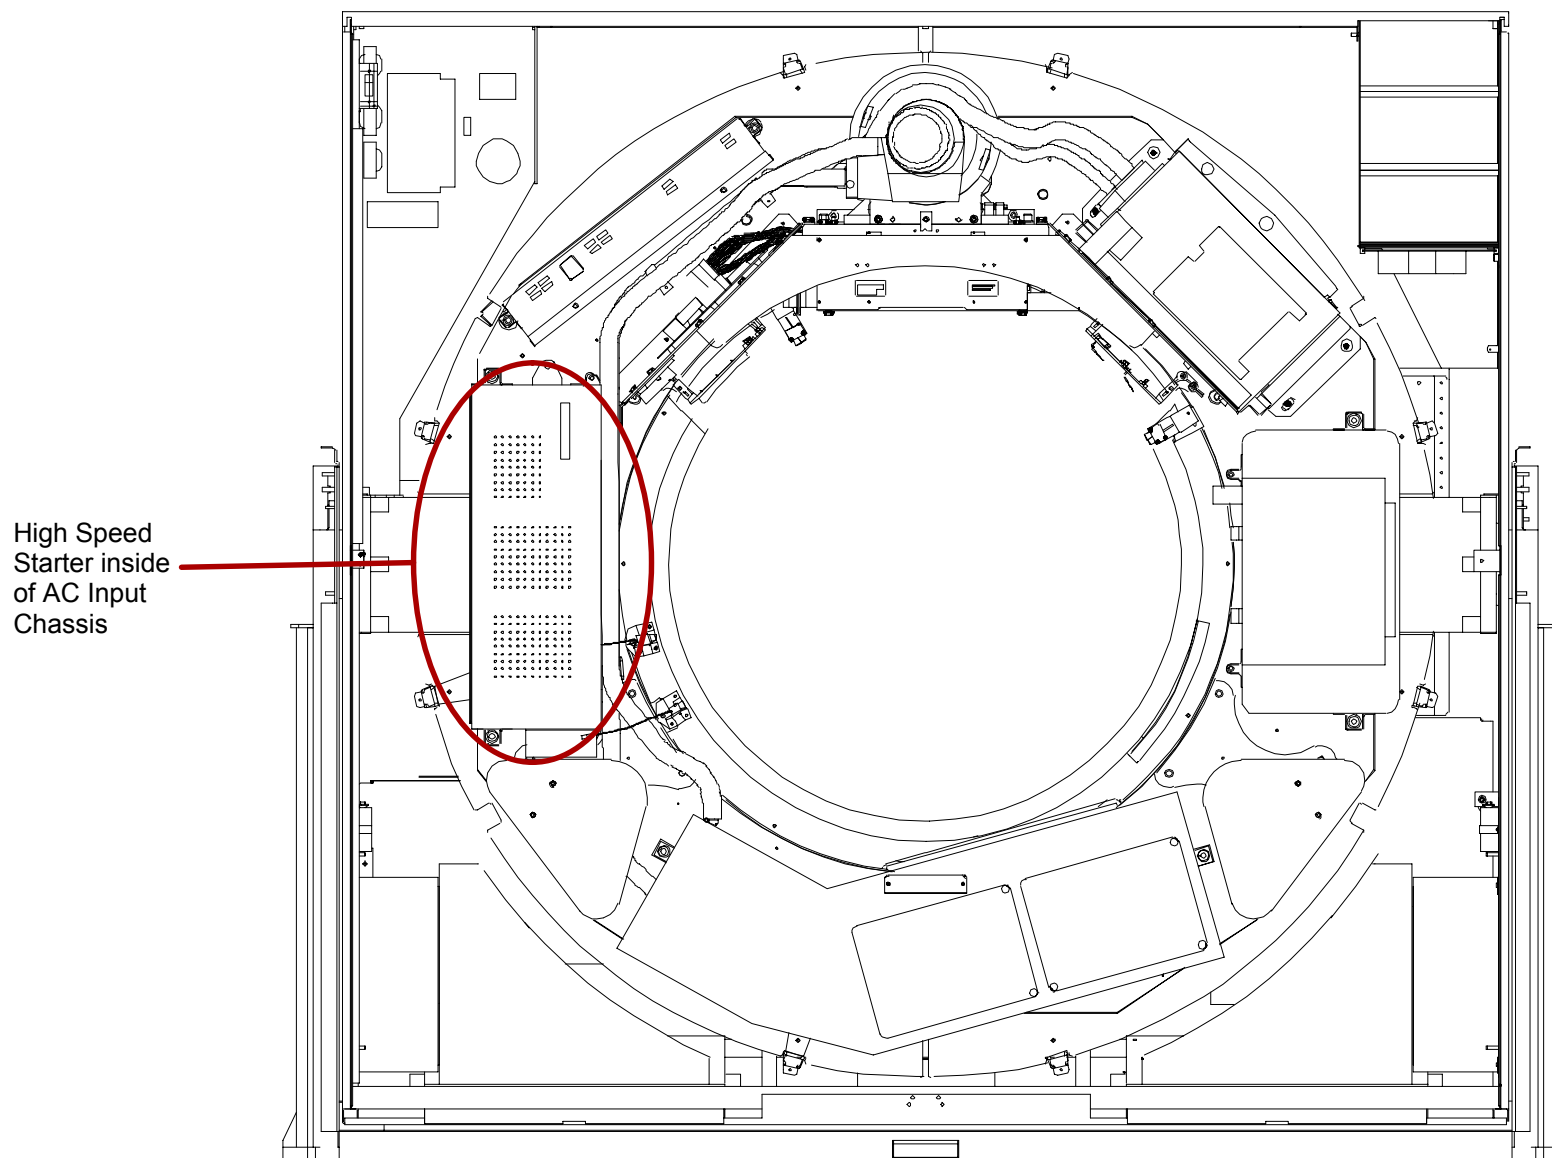

FIGURE 304 Scan Frame Pinned with Tube at 12:00 / HSS Location
3. Rotate the Scan Frame counterclockwise by hand until the X-Ray Tube is at the 12:00 position. Lock the Scan Frame with the Locking Pin. See Figure 304.